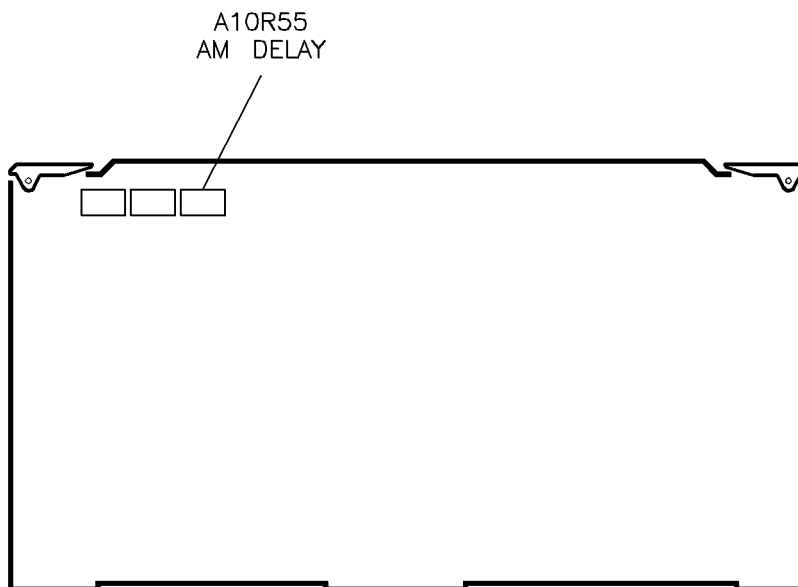

Figure 3-32. AM Delay Adjustment Location
6. Adjust A10R55 (see Figure 3-32) for a minimum AC voltage reading on the DVM.